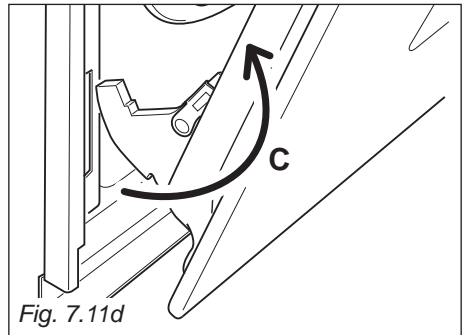

Fig. 7.11d
- Withdraw the hinge hooks from their location following arrow "C" (fig. 7.11d).